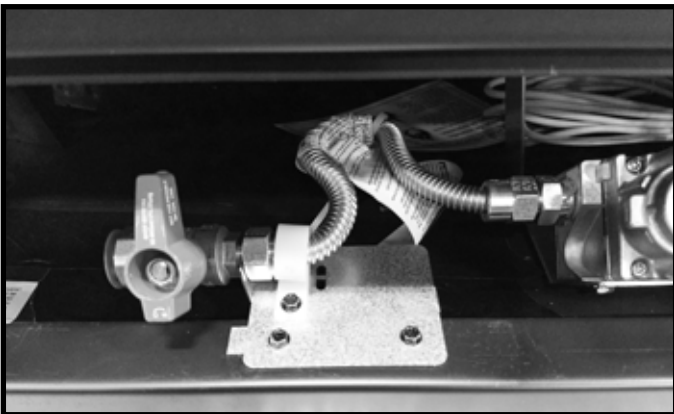

Figure 9.4 Incoming Gas Line Location
**Note:** It is important to plumb the incoming gas line to the location specified inside the appliance. This specific location allows for future serviceability of the appliance. See Figure 9.4.